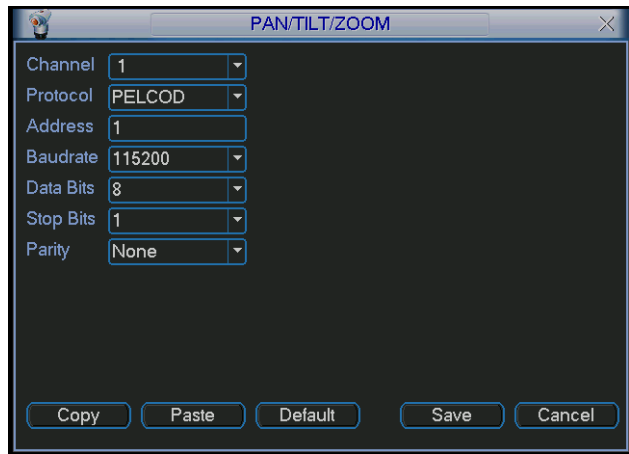
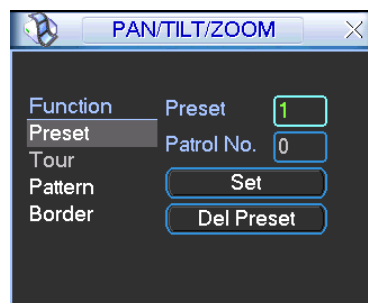
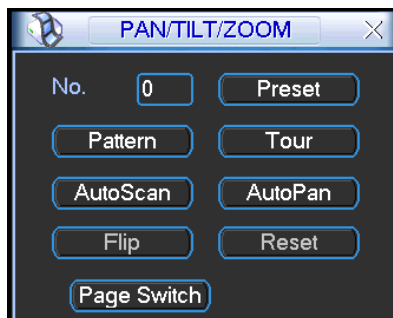

Figure 4-30
Figure 4-35
Figure 4-36
In the main menu, click setting, and then click Pan/Tilt Control button. The interface is shown as in Figure 4-30. Here you can set the following items:
In Figure 4-32, click the “set” button. The interface is shown as below. See Figure 4-35.
In Figure 4-32, click page switch button, the interface is shown as in Figure 4-36.
- The following setups are usually operated in the Figure 4-32, Figure 4-35 and Figure 4-36 .
In Figure 4-35, click preset button and input preset number. The interface is shown as in Figure 4-37.
In Figure 4-36, please input preset number in the No. blank, and click preset button.
In Figure 4-35, click patrol button. The interface is shown as in Figure 4-38. Input preset number and add this preset to a patrol (tour). For each patrol (tour), you can input max 80 presets.
In Figure 4-35, input patrol (tour) number in the No. blank and click patrol button
In Figure 4-35, click pattern button and then click “begin” button. The interface is shown as in Figure 4-39. Then you can go to Figure 4-32 to modify zoom, focus, and iris.
In Figure 4-36, input mode value in the No. blank, and click pattern button.
In Figure 4-35, click border button. The interface is shown as in Figure 4-30.
In Figure 4-36, click “Auto Scan” button, the system begins auto scan. Correspondingly, the auto scan button becomes Stop button. Click stop button to terminate scan operation.
In Figure 4-36, click page switch button, you can see an interface is shown as below. See Figure 4-41. Here you can set auxiliary function. The aux value has relationship with the Aux button of the decoder.